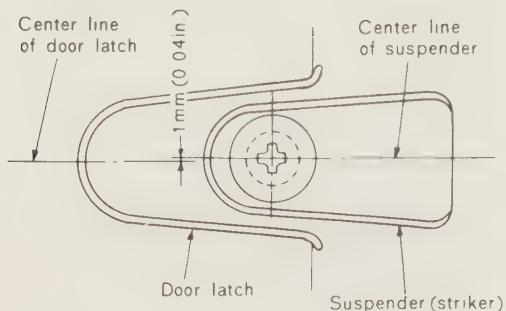

Fig. 12.17. Door striker adjustment
- 3 The difference between the center line of the door latch and that of the striker should be 0.04 in (1 mm), see Fig. 12.17. Adjustment is by moving the striker after loosening the securing screws. Make sure the securing screws are fully tightened after each adjustment.